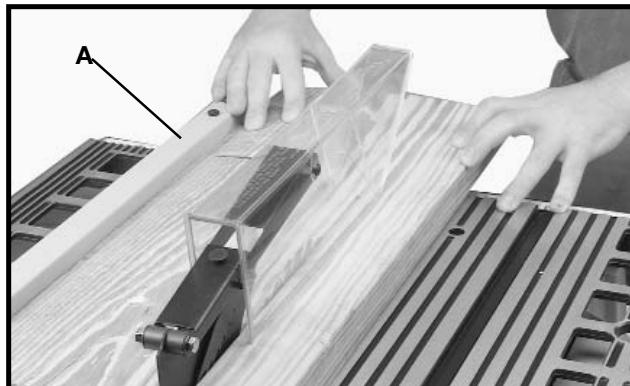

Fig. 40
Ripping is cutting lengthwise through a board. The rip fence (A) Fig. 40 is used to position and guide the work. One edge of the work rides against the rip fence while the flat side of the board rests on the table. Since the work is pushed along the fence, it must have a straight edge and make solid contact with the table. The saw blade guard must be used. The guard has anti-kickback fingers to prevent kickback and a splitter to prevent the wood kerf from closing and binding the blade.
1. Start the motor and advance the work holding it down and against the fence. **Never** stand in the line of the saw cut when ripping. Hold the work with both hands and push it along the fence and into the saw blade (Fig. 40). The work can then be fed through the saw blade with one or two hands. After the work is beyond the saw blade and anti-kickback fingers, the hand is removed from the work. When this is done the work will either stay on the table, tilt up slightly and be caught by the end of the rear guard, or slide off the table to the floor. Alternately, the feed can continue to the end of the table, after which the work is lifted and brought along the outside edge of the fence. The cut-off stock remains on the table and is not touched until the saw blade has stopped, unless it is a large piece allowing safe removal. When ripping boards longer than three feet, use a work support at the rear of the saw to keep the workpiece from falling off the saw table.